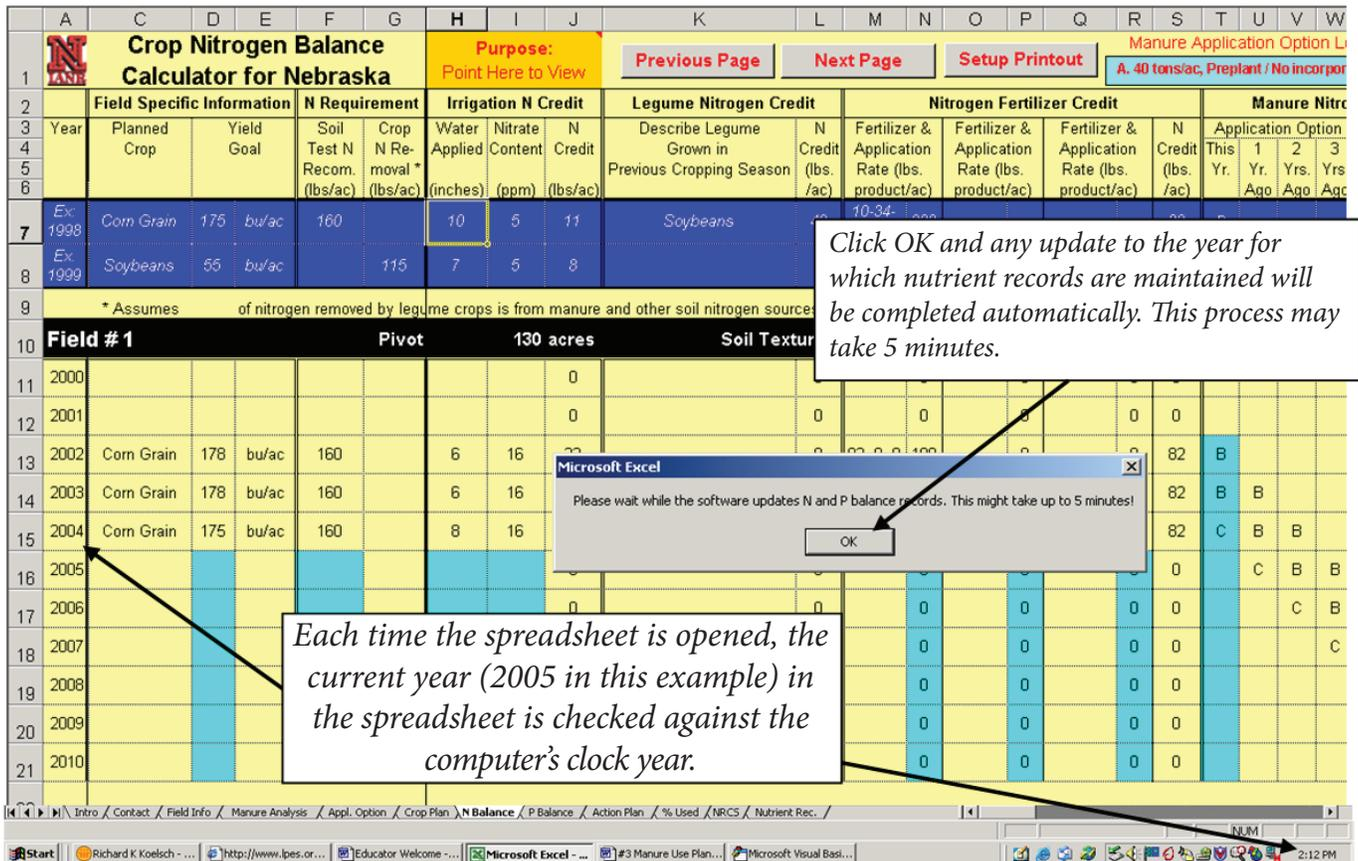

Figure 5. When opened, the spreadsheet will check the years of its records against the computer clock year and update files as necessary.
2. **Opening the file.** When the file is opened, a “Year Check” procedure is run automatically to compare the computer clock’s year against the current year identified in the spreadsheet (Figure 5). The spreadsheet maintains nutrient management plans for the current year, five years into the future, and five years into the past. If the computer clock year indicates that a new year has begun since the spreadsheet was last opened, it will update all of the nutrient management plans so that the current year matches the computer clock. This procedure takes about five minutes. When the procedure is finished, space will be added for a new year’s nutrient management (current year plus five years) and an old nutrient management plan will be erased (plan for current year minus six years).